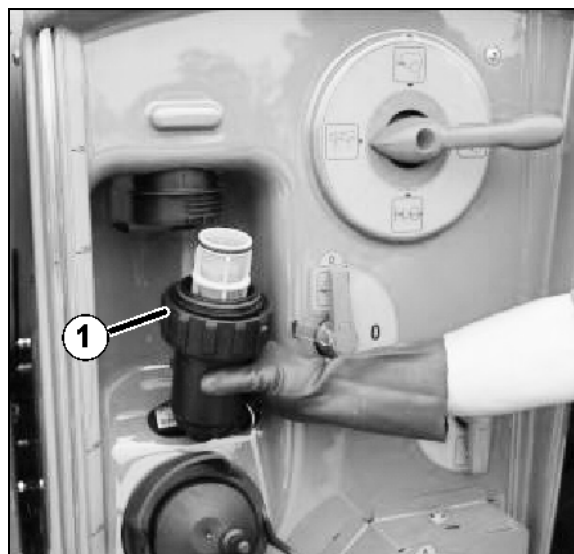

Fig. 117
2. Remove the pressure filter (Fig. 117/1) and clean with water.